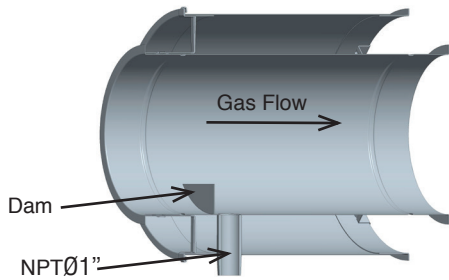

Figure 82 - Horizontal Drain Length
1. Horizontal Drain length is equipped with a 1" (25) NPT nipple, which is attached to the inner flue and extends through the outer casing to provide a path to drain grease, condensate or wash water from the duct. See **Figure 82**.